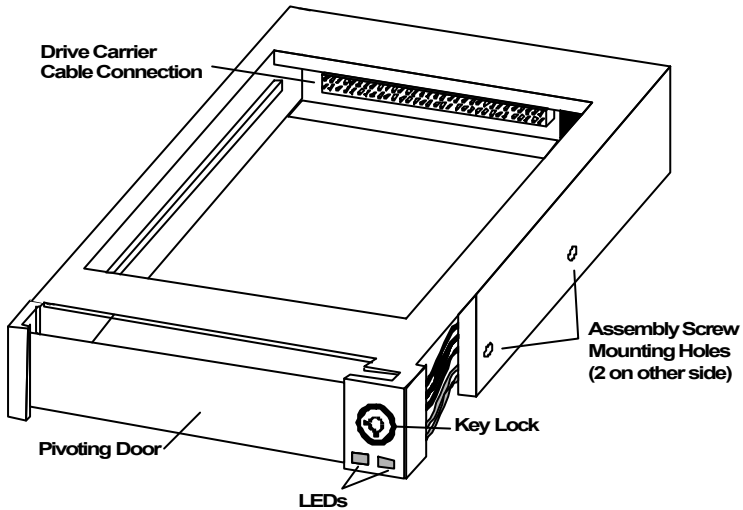

Figure 2-1: SuperSwap Housing Assembly
2. Slide the housing assembly (see Figure 2-1 next page) into one of the 5.25" drive bays of your system.
3. Align the front of the housing assembly with the front of your system, then install the included screws in the four anchor holes (two on each side) of the assembly (see Figure 2-1).
1. Using the provided key, unlock the drive carrier by turning the key in the lock 90° counterclockwise (see Figure 2-1).
9. Lock the carrier into place by turning the key in the lock 90° clockwise (see Figure 2-1). Power will not reach the hard drive unless the carrier is locked into place.